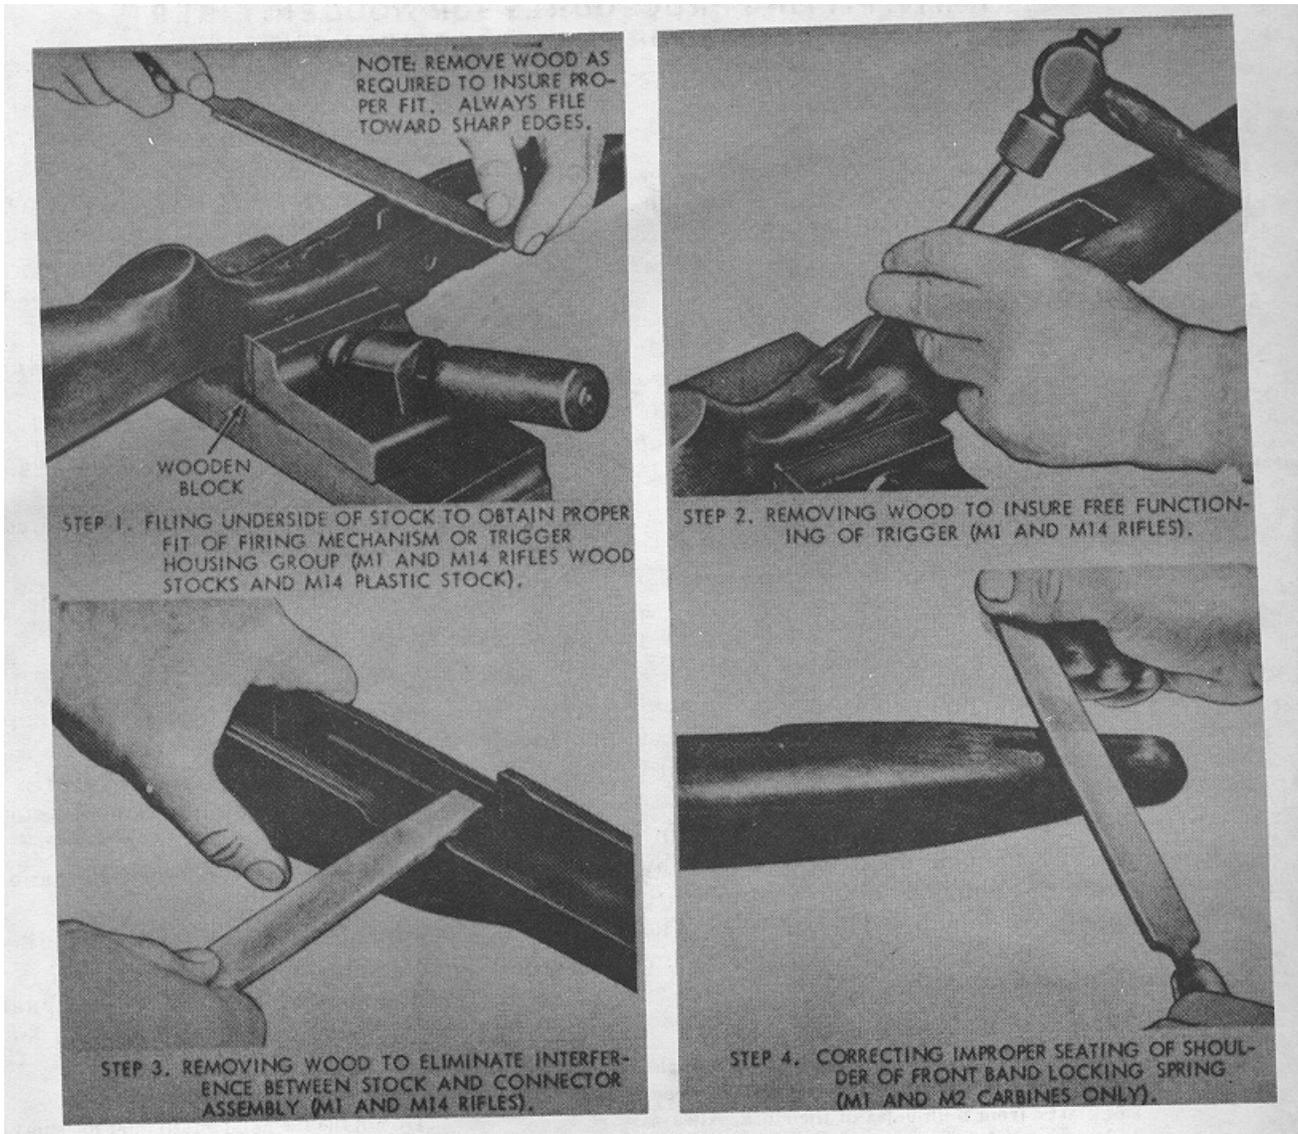

Figure 3-19. Fitting Procedures.
b. *Insufficient Clearances at Rear End of Trigger Housing Notch.* Use chisel or round file to remove wood or plastic as required until trigger action is free (M1 and M14 Rifles) (steps 1 and 2, fig 3-19).
c. *Operating Rod Cut Binds on Stock Ferrule.* Use rasp to relieve wood or plastic as required (M and M14 Rifles) (step c, fig 3-19).
(1) Hand function operating rod slowly, observing for contact between operating rod, connector assembly, and stock.
(2) Remove wood or plastic as required.
(1) Using fine flat file with a safe edge, file rear face of shoulder only (step 4, fig 3-19).
(2) File shoulders of the stock or hand guard at front of stock to insure proper seating and locking of the hand.